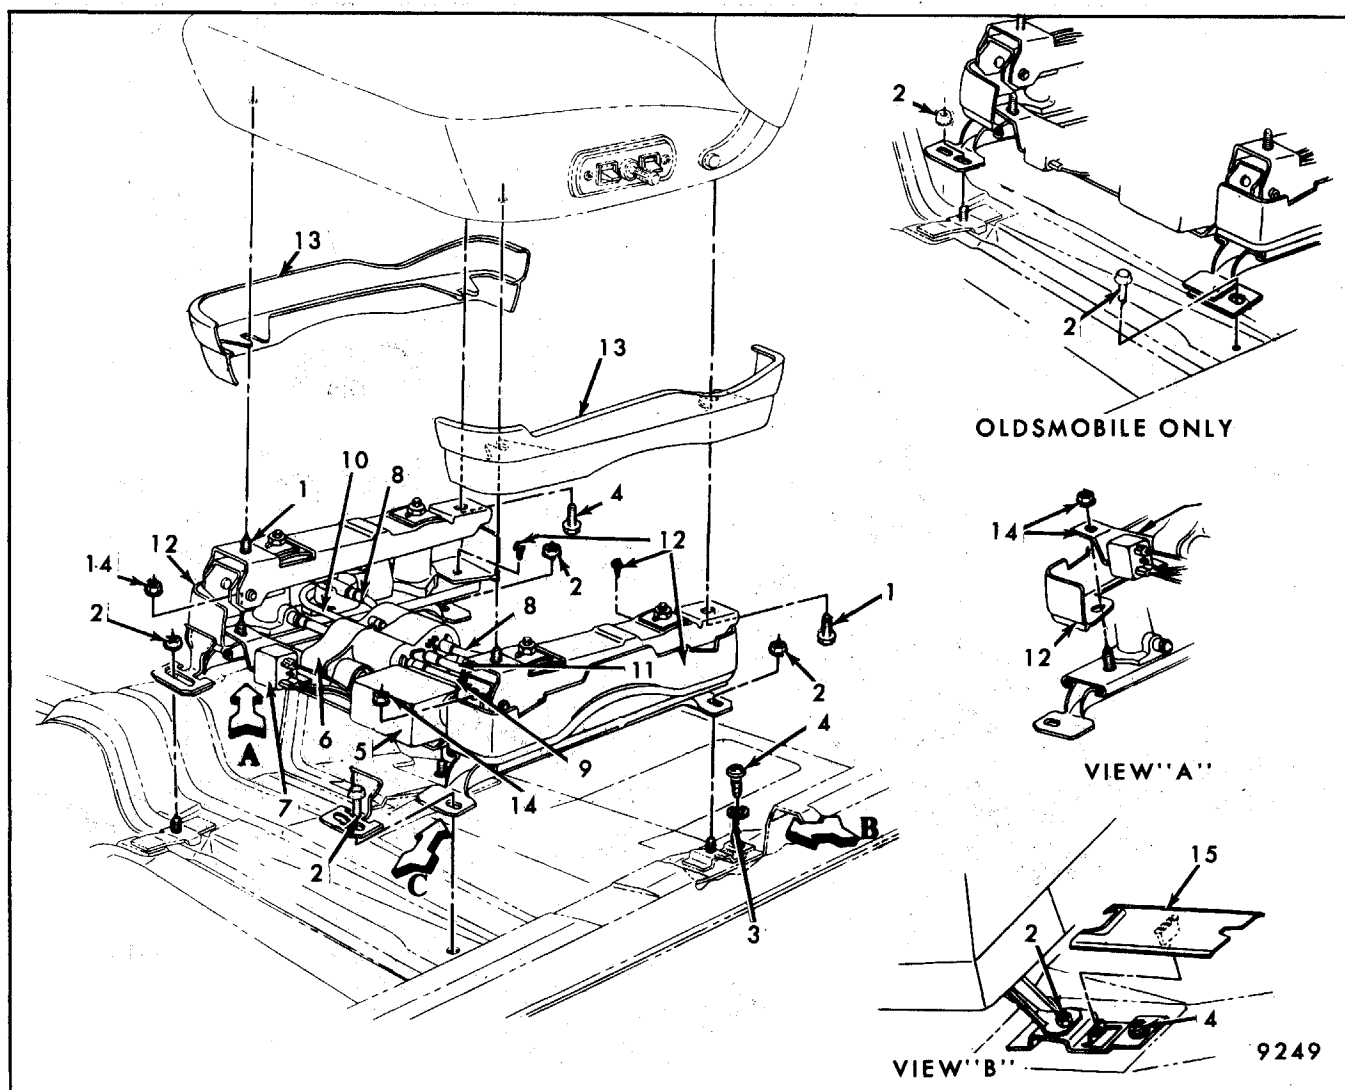

Fig. 9-15 - "A and X" Body Six-Way Power Operated Bucket Seat and Adjusters
5. Figure 9-15 - "A and X" Body Power Operated Bucket Seats
- Figure 9-15 - "A and X" Body Power Operated Bucket Seat and Adjuster